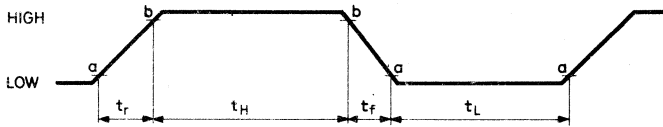

Fig. 1
- t_f = fall time (transition from HIGH to LOW, see Fig. 1)
- t_H = signal HIGH duration (Fig. 1)
- t_L = signal LOW duration (Fig. 1)
- t_r = rise time (transition from LOW to HIGH, see Fig. 1)